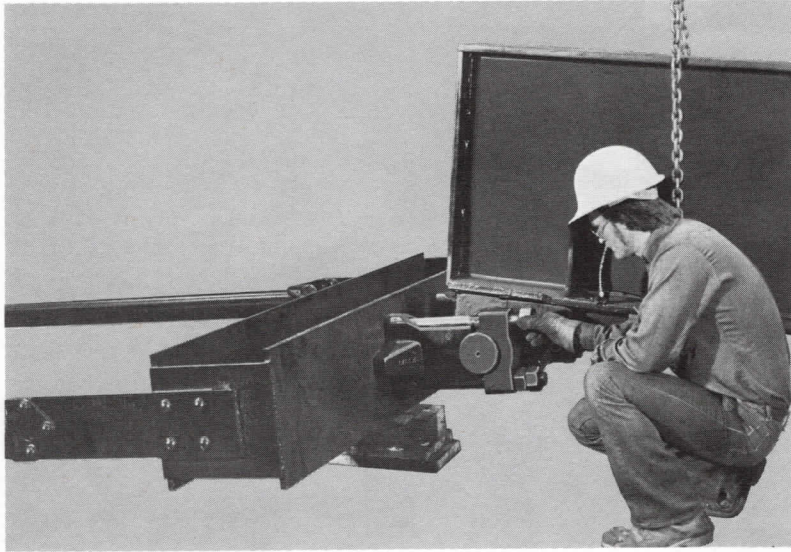

Fig. 11
17. Assemble equalizer pitman assembly to walking beam, Fig. 11. Note cribbing under equalizer to allow its alignment with walking beam. Install bolts finger tight. On D114-143-64 and larger units, be sure tapped hole for lubrication hose is midway between equalizer bolts. Install grease hose with "L" fitting on beam turned up. The equalizer and pitman arms are a one piece assembly with rigid connections (SPRINGFLEX-Patented). Be careful to avoid bending SPRINGFLEX units.